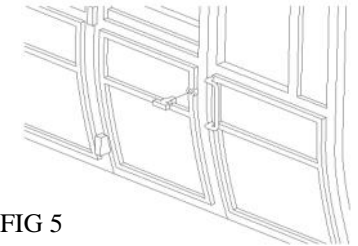

FIG 5
6. You can now solder the door handles and grab rails in place or leave them until after painting - when they will have to be glued. The door handle locating holes may need to be opened out. File the outer edge of the handles to a smooth finish. (Figure 5, above).